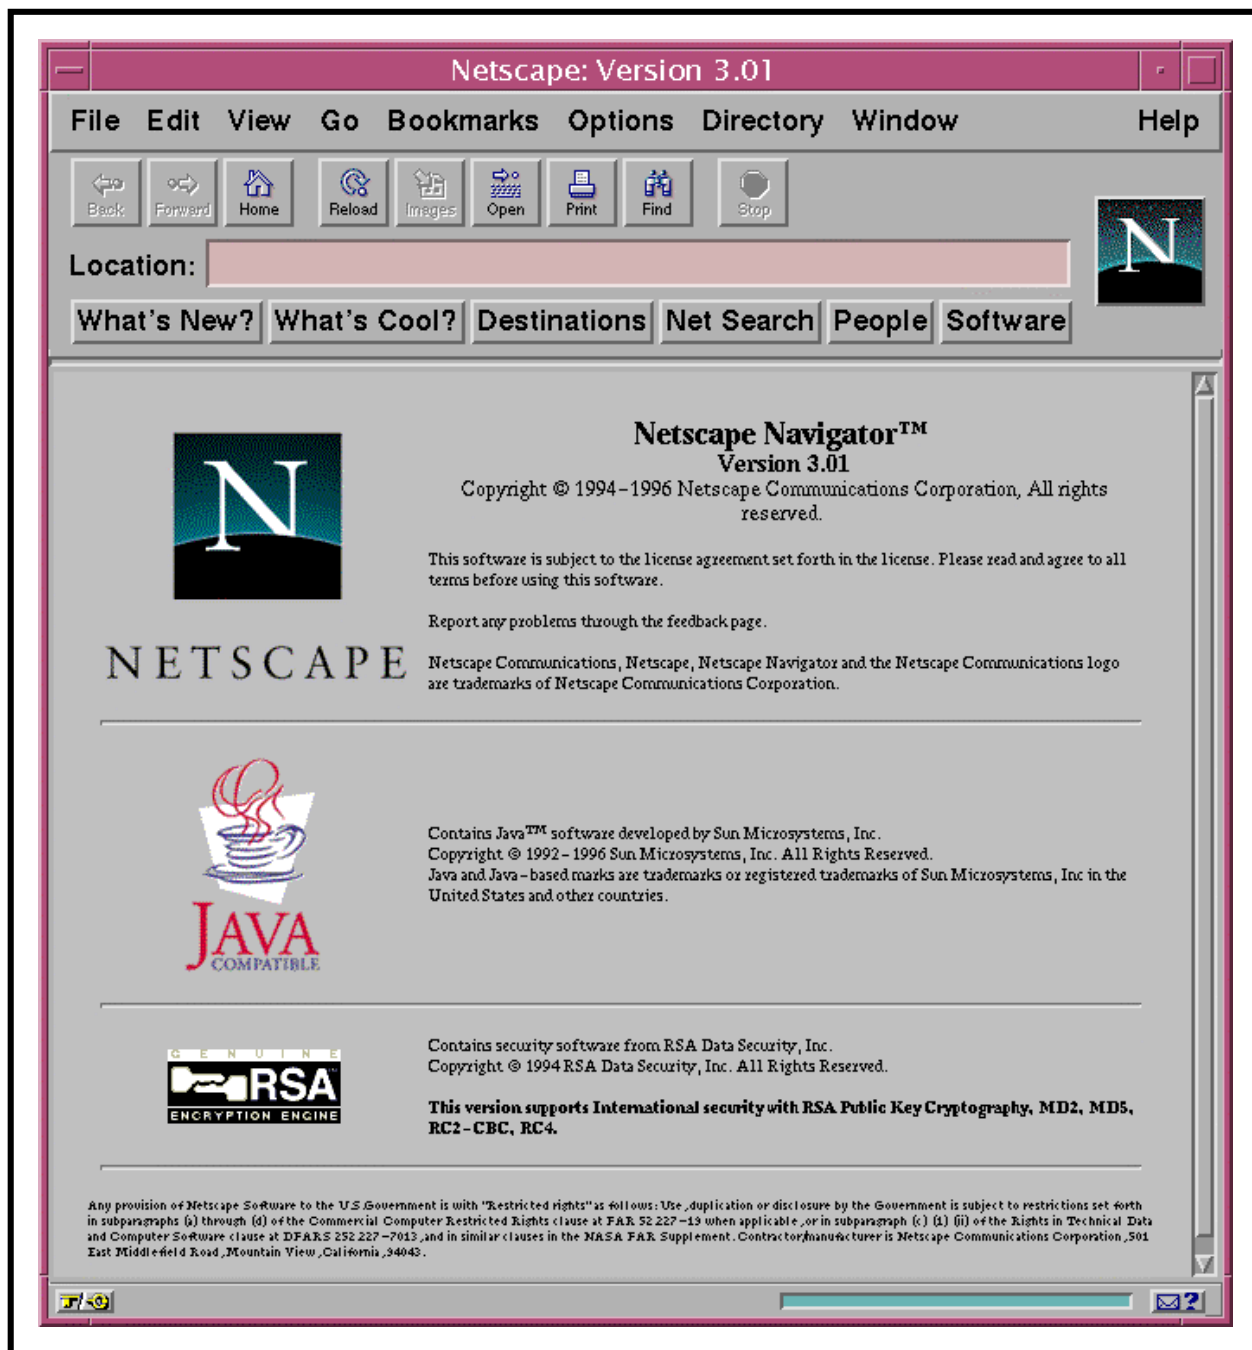

Figure 8. Netscape Web Browser
- The Netscape web browser (Figure 8) is displayed.